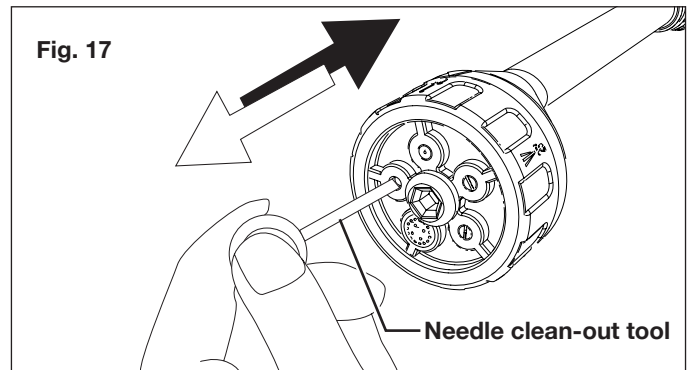

Fig. 17
2. Clean the nozzle with the needle clean-out tool provided (Fig. 17). Remove the spray wand from the gun; remove any dirt from the nozzle hole and rinse.